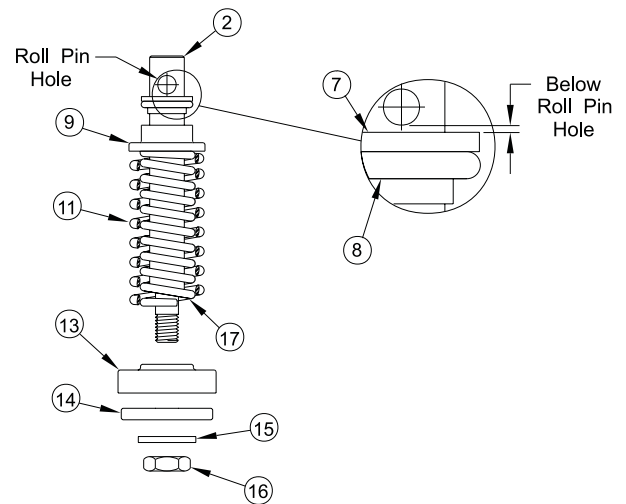

FIG. 2
REFER TO FIGURE 2 FOR THE FOLLOWING STEPS:
- Step 1: Install O-ring (8) on the Seal Retainer (7). Lubricate Stem (2) with a good quality grease compatible with the service conditions. From the threaded end of Stem (2), slide this assembly onto Stem (2) with the shoulder side of Seal Retainer (7) facing toward the top of the Stem. See Figure 2 Seal Detail.
- Step 4: Lubricate O-ring (8) and the sealing bore of Bonnet (5) with a good quality grease compatible with the service conditions.
- Step 5: Install the complete Assembly of Figure 2 into Bonnet (5), rotating the Assembly as the O-ring (8) and the Seal Retainer (7) enter the sealing bore of the Bonnet.
- Step 6: Install O-ring (6) and Swivel Pad (4) over Stem (2) on top of Bonnet (5).
- Step 7: Place Handle Assembly (1) onto Stem (2), and Install Roll Pin (3).
- Step 8: Replace Bonnet Gasket (10) in top of Body (12). Install the Bonnet Assembly into Valve Body, and tighten hard against the metal Bonnet Gasket (10).